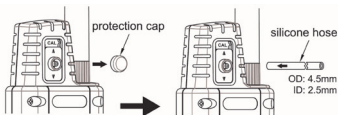

Figure 2
3. Connect the silicone tubing to the calibration inlet of the sensor as shown in Figure 2.